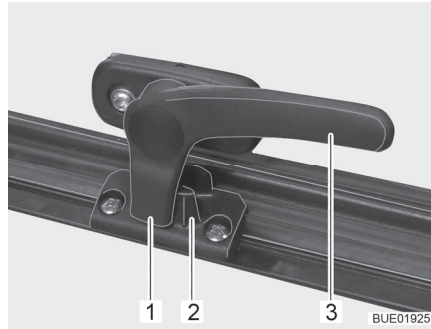

Fig. 10 Catch lever in "closed" position
- Turn the catch lever (Fig. 10,3) a quarter turn towards the centre of the window.
- Turn the catch lever (Fig. 10,3) a quarter turn towards the window frame. The locking catch (Fig. 10,1) is located on the inside of the window catch (Fig. 10,2).
- "Firmly closed" (Fig. 10).